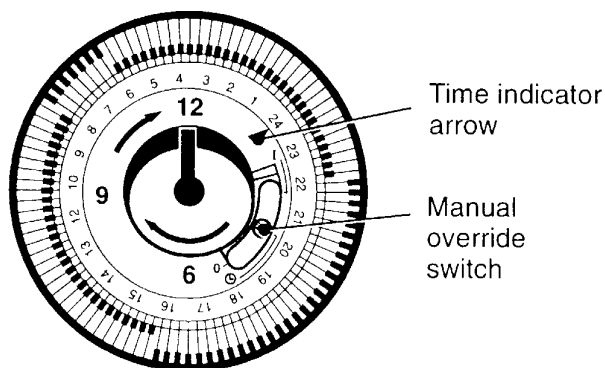

Fig. 2
MECHANICAL TIMER - Description and setting (see Fig. 2)
The groups of tappets between 6.00 and 8.00, and 16.00 and 22.00 set outwards as shown in Fig. 2. This would provide two 'on' periods for central heating from 6 am to 8 am, then again from 4 pm to 10 pm.
To set the timer to the correct time of day, turn the dial (outer tappet ring) clockwise until the time of day is against the time indicator arrow head. Fig. 2 shows the timer at midnight (24.00). The timer also has a conventional 12 hr clock hands display in the centre (do not move the pointer, as it will damage the clock).
- The manual override switch, shown in Fig. 2, is in the $\ominus$ position.